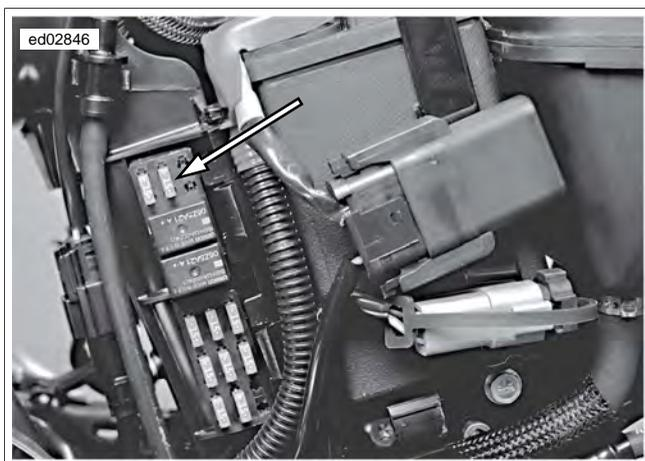

Figure 4-26. Fuel Pump Fuse
See Figure 4-26. The fuel pump fuse is located on the relay/fuse block behind the left side cover. The fuel pump can be turned on by applying battery voltage to the fuel pump fuse.
- a. See Figure 4-26. Unplug fuel pump fuse from relay/fuse block.
7. See Figure 4-26. Install fuel pump fuse.